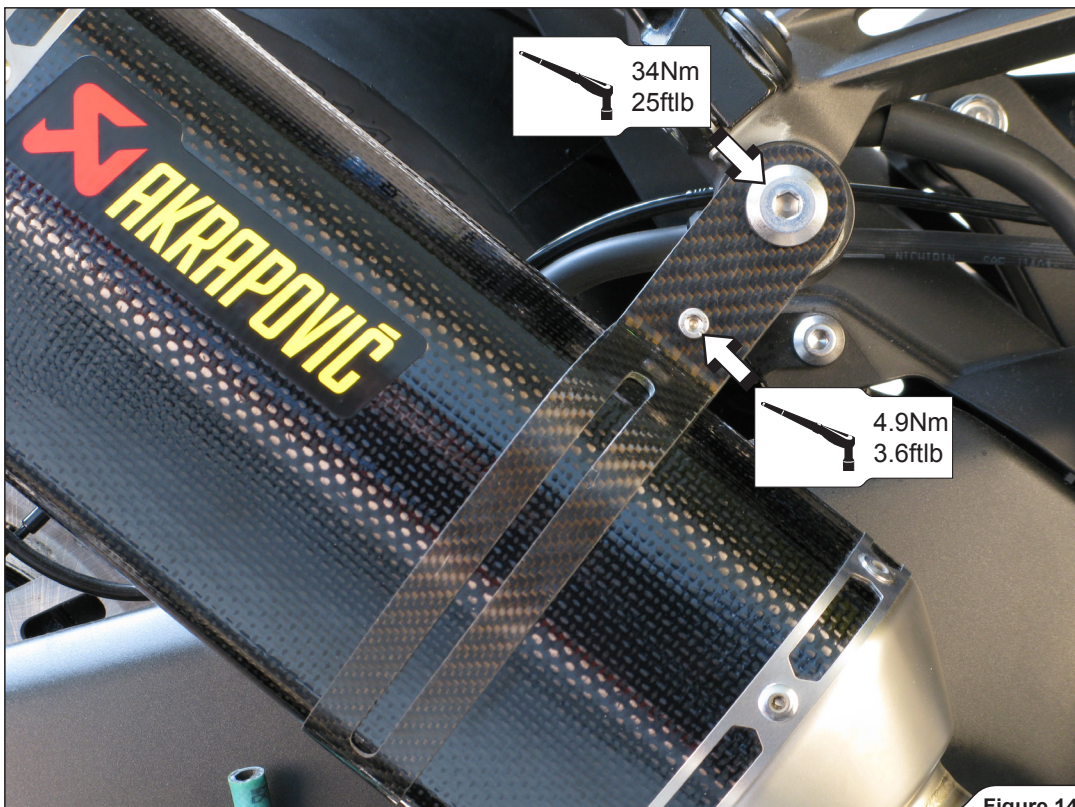

Figure 14
4. **For Slip-On only:** align the mufflers in respect to the motorcycle and tighten the muffler clamps to the bracket, using stock bolts and nuts (Figure 14).